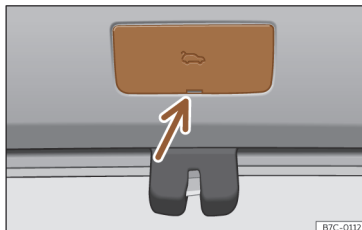

Fig. 81 Detail of the luggage compartment: access to emergency unlocking.
- Remove the cover using the key blade as a lever >>> **Fig. 81**.